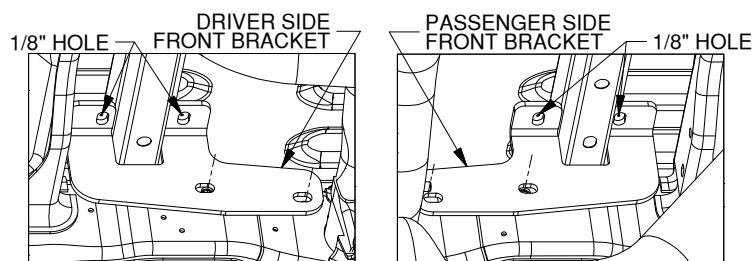

Figure A3: View looking up at the inside of driver side frame. Figure A4: View looking up at the inside of passenger side frame.
- Check hole locations.** Locate the driver side front bracket. Position and hold the bracket flat against the inside of the frame where it will be installed see Figure A3. Check that the 1/8" pilot holes are centered within the slots in the frame brackets. If the 1/8" drilled holes are not centered within the slots, re-drill the 1/8" holes until the brackets and the drilled holes are aligned. Repeat the process for the passenger side using the passenger side rear bracket, see Figures A4.